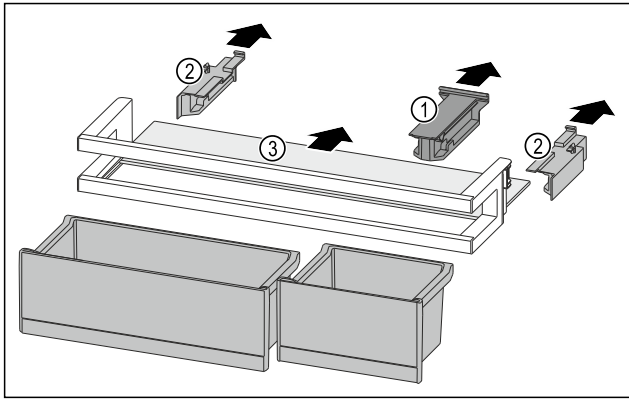

Fig. 248
- ▶ Pull off the holding part Fig. 248 (1).
- ▶ Pull off the side parts Fig. 248 (2).
- ▶ Remove the shelf Fig. 248 (3).